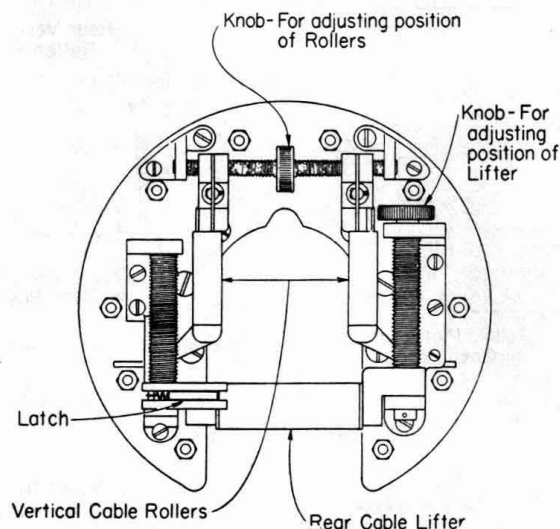

Fig. 4
2.03 The rear cable lifter is adjustable vertically, when open, by turning a knurled knob. The rear cable lifter is opened by pressing the latch and swinging the roller to the open position. The rear vertical cable rollers are adjustable by turning a knurled knob. The vertical cable rollers are spring mounted to prevent jamming. See Fig. 4.